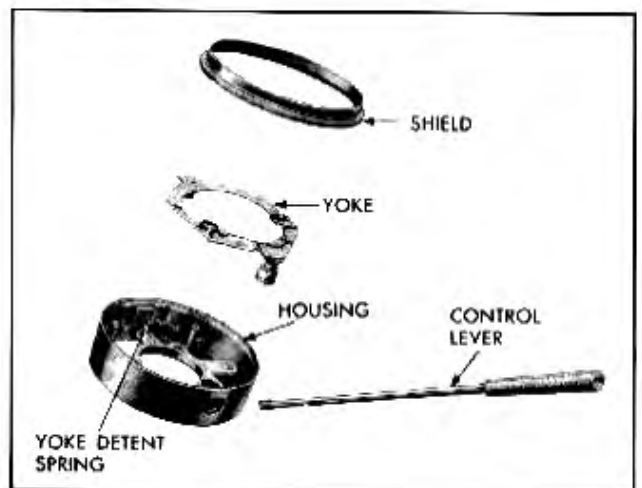

Fig. 12-71 Direction Signal Control—Exploded
6. Actuator yoke can be removed from housing by pressing out shield (Fig. 12-71).